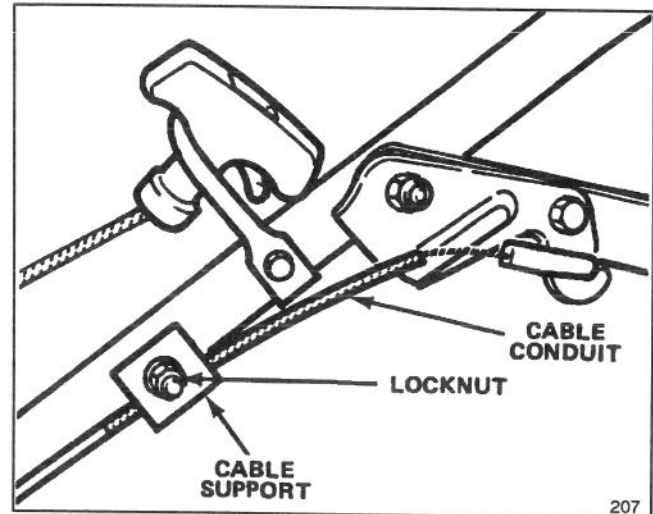

Figure 30
3. ADJUST CABLE CONDUIT—Loosen locknut on cable support (Fig. 30). Insert $1/8''$ – $3/16''$ object between brake lever and handle. Adjust cable conduit until slack is removed. Then tighten locknut.